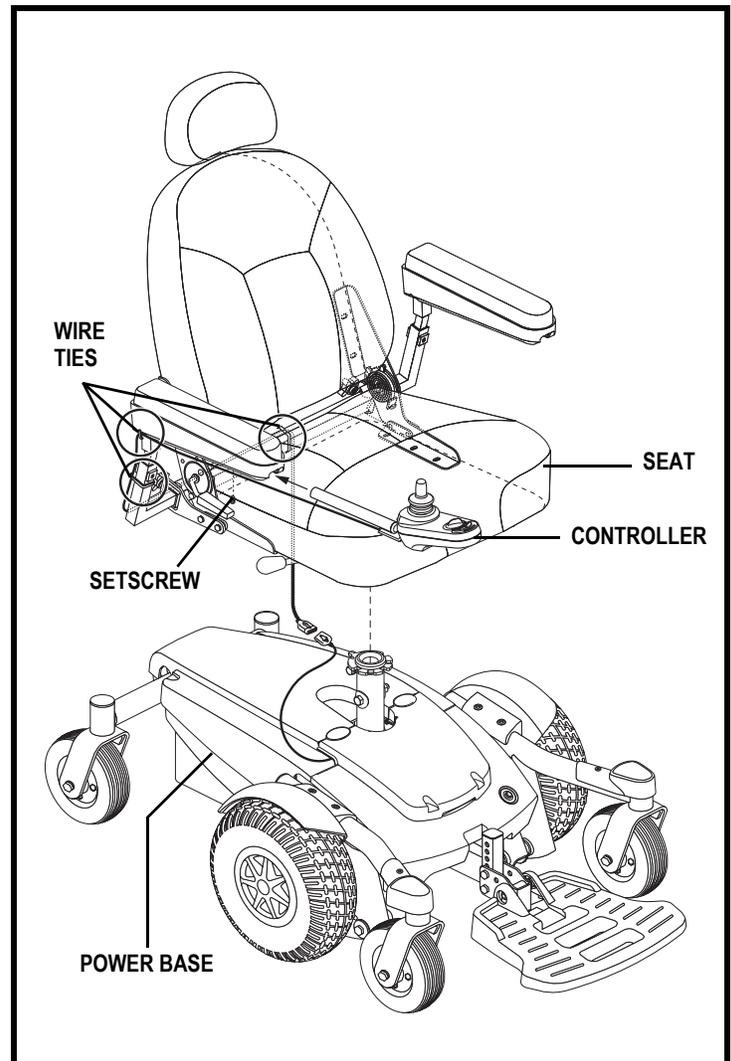

Figure 11. Seat and Controller Assembly
1. Slide the seat down onto the power base. See figure 11.
2. Install the controller into one of the armrests. Tighten the setscrew with the supplied hex key. See figure 11.
3. Lift the armrest straight up, then route the controller harness and secure with wire ties as shown in figure 11.
9. Route the controller harness along the seat frame and secure with wire ties. **See figure 11.**